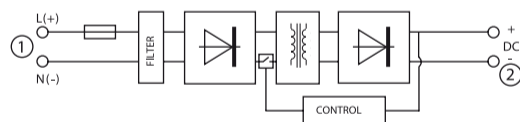

Figure-2
2.1 Input (1)
- The part which is numbered as 1 in Figure-2 is the Line and Neutral supply inputs of PS-722.
2.2 Output (2)
- The part which is numbered as 1 in Figure-2 is the DC voltage output of PS-722.